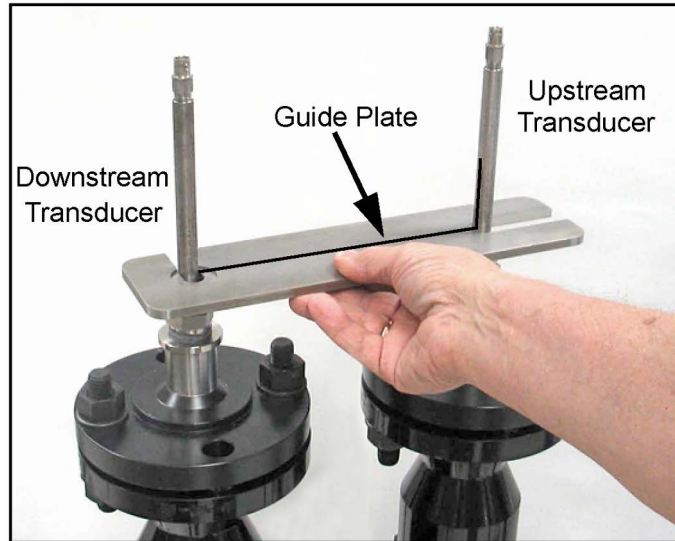

Figure 9: Installing the Guide Plate
2. Slide the end slot of the guide plate around the upstream transducer, and rotate the plate until the side slot is around the downstream transducer (see Figure 9 below). Then, align the mark on the upstream transducer barrel with the guide plate mark. Slightly tighten the upstream barrel flange bolts to maintain the alignment.